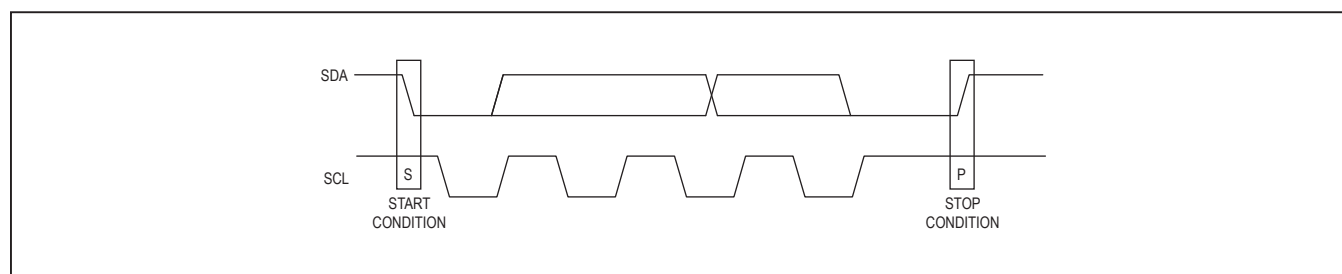
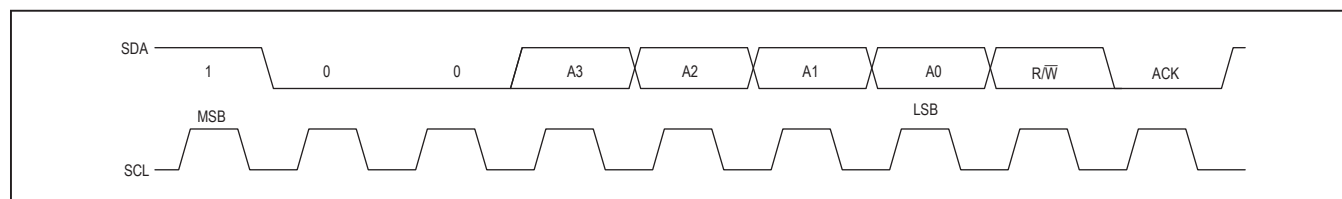

Figure 3. Start and Stop Conditions
Figure 6. Slave Address
Each transmission consists of a START condition (Figure 3) sent by a master, followed by the MAX7300 7-bit slave address plus R/W bit (Figure 6), a register address byte, one or more data bytes, and finally a STOP condition (Figure 3).
Both SCL and SDA remain high when the interface is not busy. A master signals the beginning of a transmission with a START (S) condition by transitioning SDA from high to low while SCL is high. When the master has finished communicating with the slave, it issues a STOP (P) condition by transitioning SDA from low to high while SCL is high. The bus is then free for another transmission (Figure 3).
The MAX7300 has a 7-bit-long slave address (Figure 6). The eighth bit following the 7-bit slave address is the  $\overline{RW}$  bit. It is low for a write command and high for a read command.